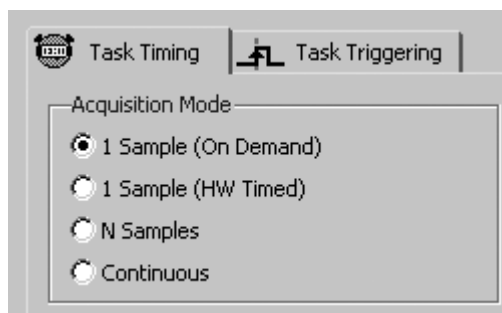

Figure 11.8
5. On the **Task Timing** tab, select an **Acquisition Mode** of **1 Sample (On Demand)**. This will configure your task to return a single measurement value each time we call the DAQ Assistant VI (see Figure 11.8).